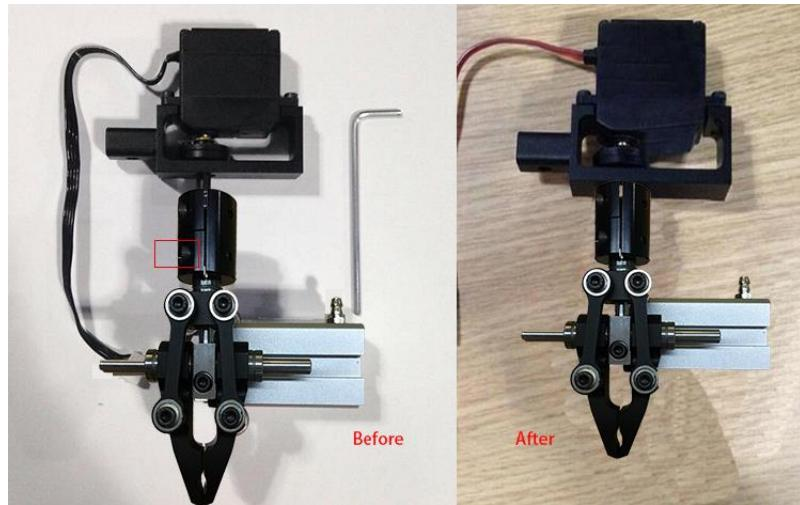

Figure 5.10 Install a gripper kit
**Step 2** Install a gripper kit to the servo with a 2.5mm hexagon wrench, as shown in Figure 5.10.